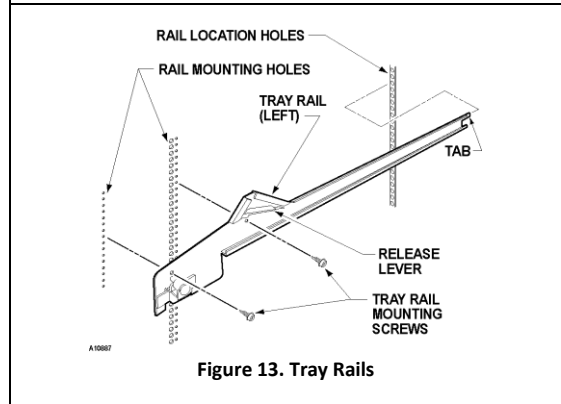

Figure 13. Tray Rails
4. Locate the release lever on the left and right tray rails. (See Figure 13) Swing the release levers up to unlatch.